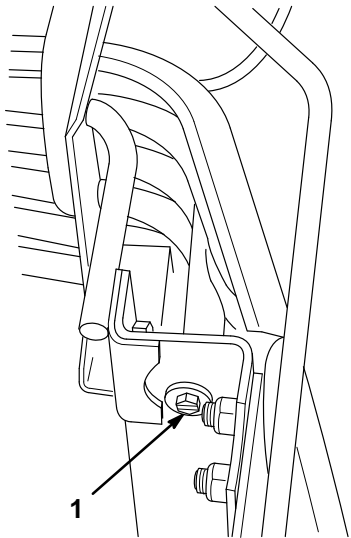

Figure 56
2. Remove the tractor's front grille by raising the hood and unscrewing the two screws and washers securing it in place (Fig. 56). Close the hood and remove the grille by pulling it out toward you.
7. Replace the front grille of the tractor, securing it with the two previously removed screws and washers (Fig. 56).
- Replace the front grille of the tractor, securing it with the two previously removed screws and washers (Fig. 56).